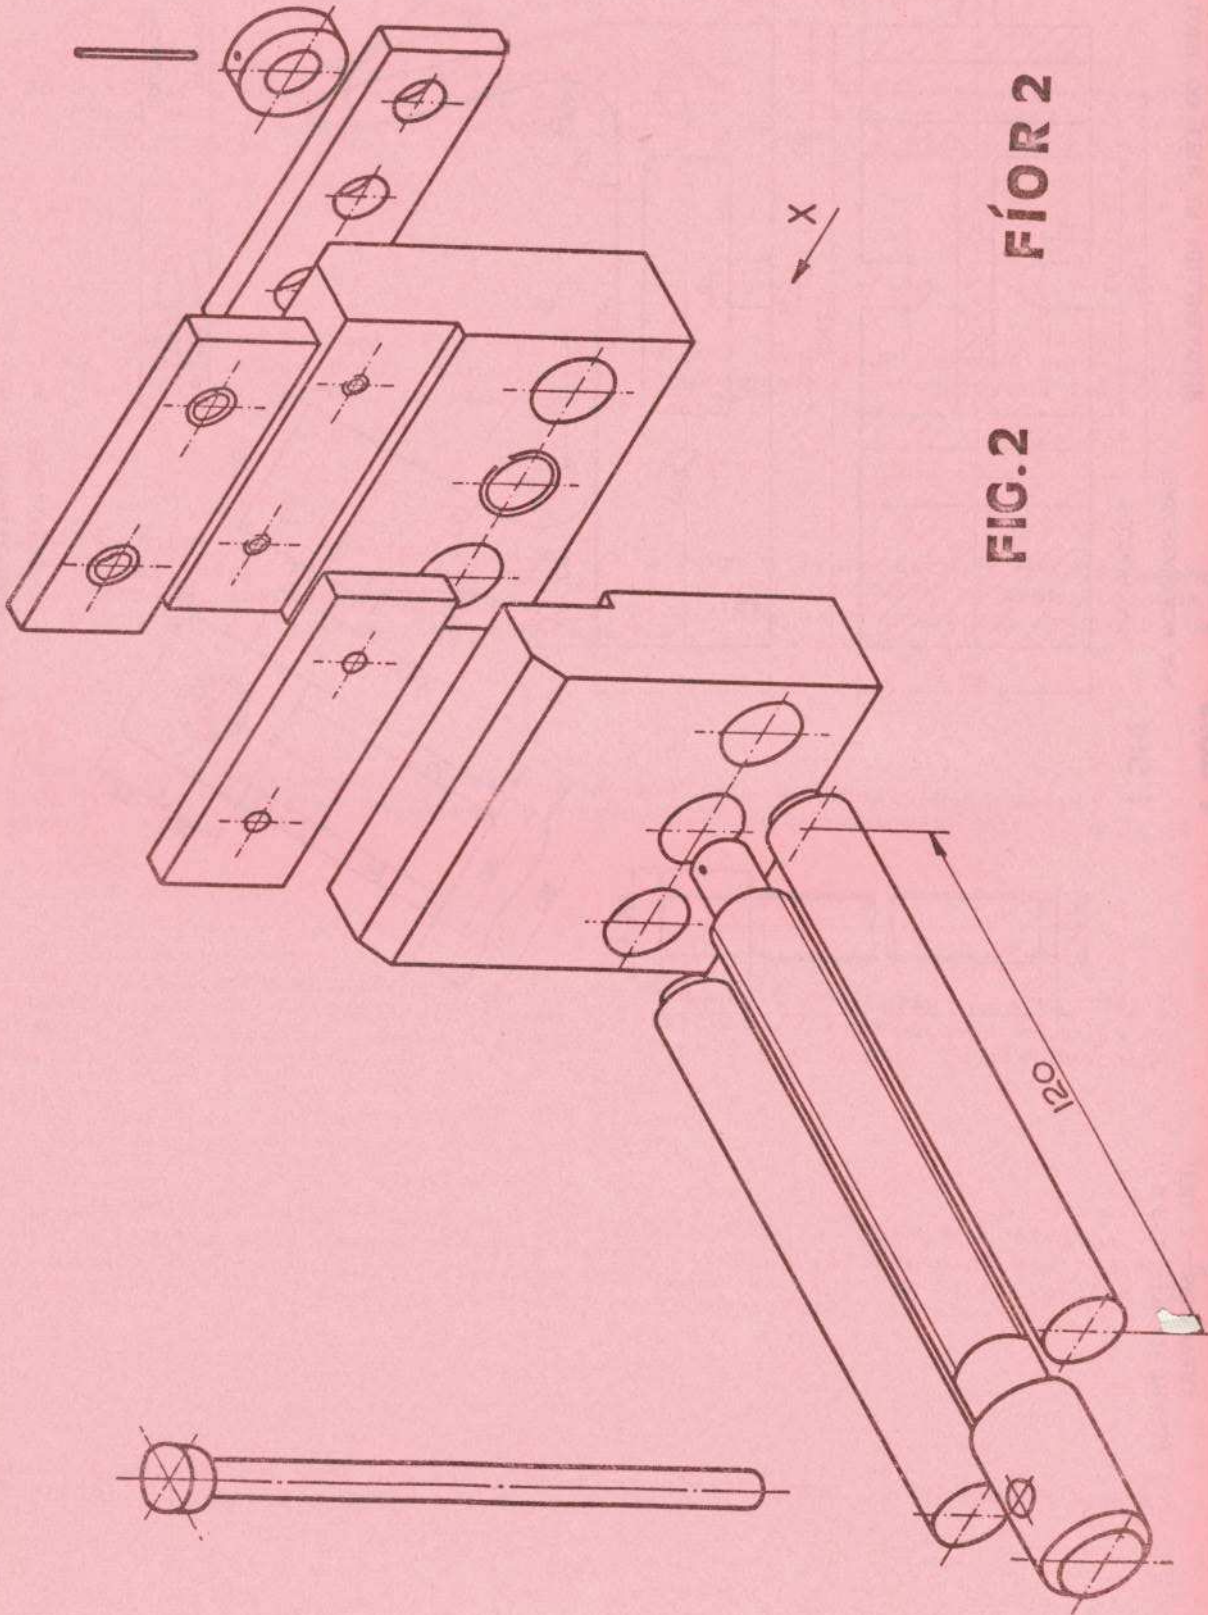

FIG. 2 FÍOR 2
2. An exploded view of a machine vice is shown in Fig. 2. Sketch freehand on plain drawing paper the following views of the assembled vice:-
2. Fig. 2 shows the cross-section through a parabolic concrete shell roof with a cylindrical chimney penetrating it. Draw the given cross-section and develop the surface of the chimney which is showing above the roof. Scale 1 : 100.
(FIG. 2 - FÉACH THALL)
(FIG. 2 - SEE OVER)